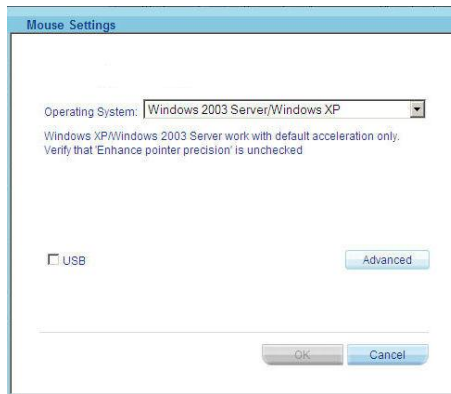

Figure 30 Relative Mouse Settings
1. From the Toolbar click  / **Mouse Settings**. The **Mouse Settings** box appears see Figure 30.